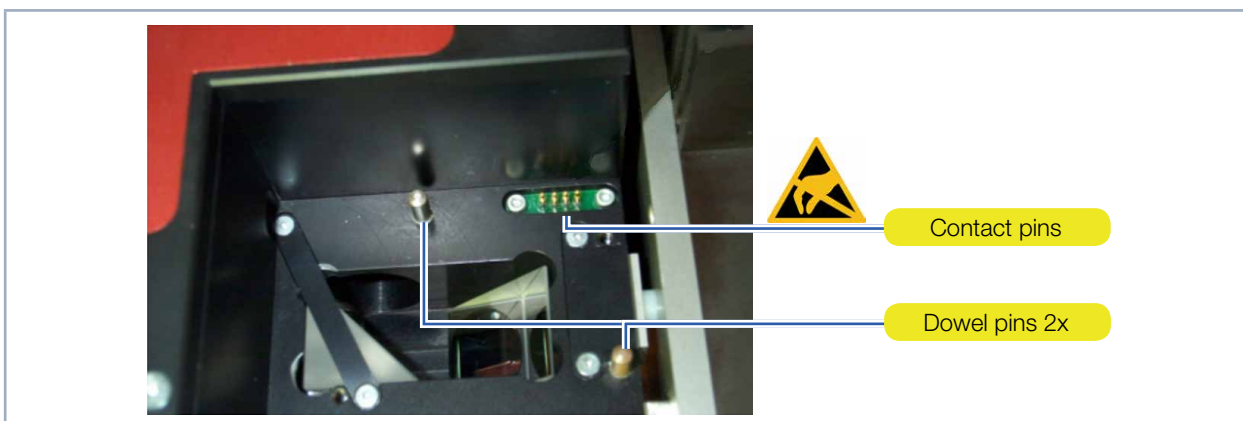

Fig. 13.3: Measuring objective – contacts and contact pins
- ▶ Do not touch the contacts of the EEPROM as well as the contact pins (see Fig. 13.3 on page 85).